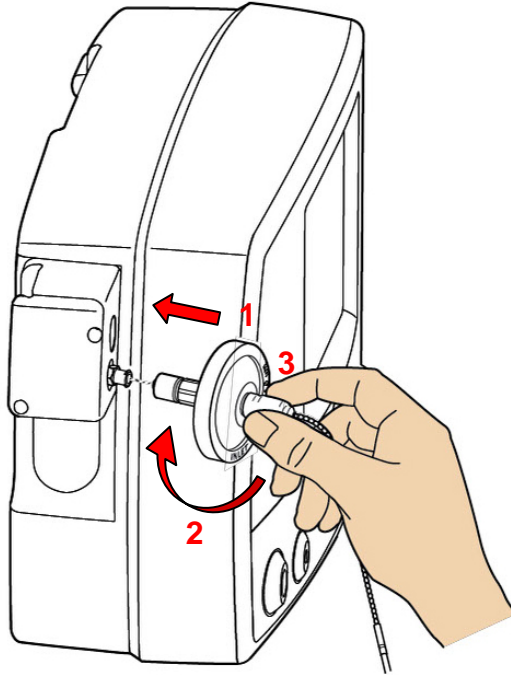

Figure 1 Connecting the Patient Gas Sample Line with Filter
2. Connect the filter end of the sample line to the sample line inlet port **(1)** (see Figure 1 below) turning clockwise **(2)** using the patient gas sample line/filter junction **(3)** to tighten the Patient Gas Sample Line with Filter to the sample line inlet port Luer connector on the front of the INOmax DS_{IR}, INOmax DS_{IR} Plus, INOmax DS_{IR} Plus MRI or INOflo DS .